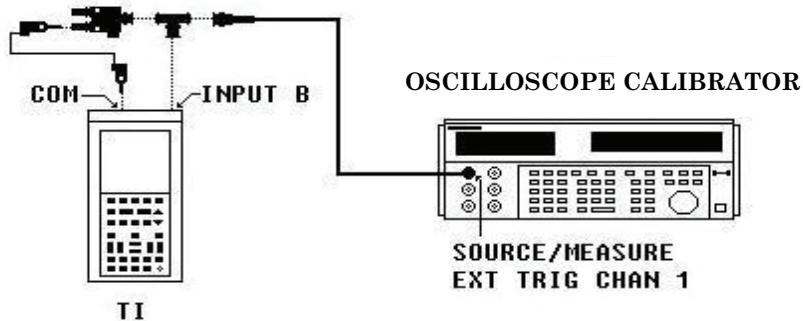

Figure 2. Scope vertical gain input B.
- (6) Connect equipment as shown in figure 2.
- (7) **(F1) CLOSE** which will display/highlight **CONTR.**